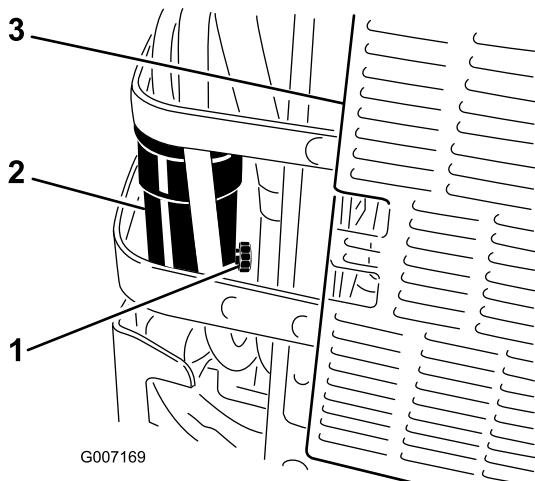

Figure 51
6. Open the drain valve on the water separator approximately 1 turn to allow water and other contaminates to drain (Figure 51).
7. Close the drain valve when only diesel fuel comes out (Figure 51).